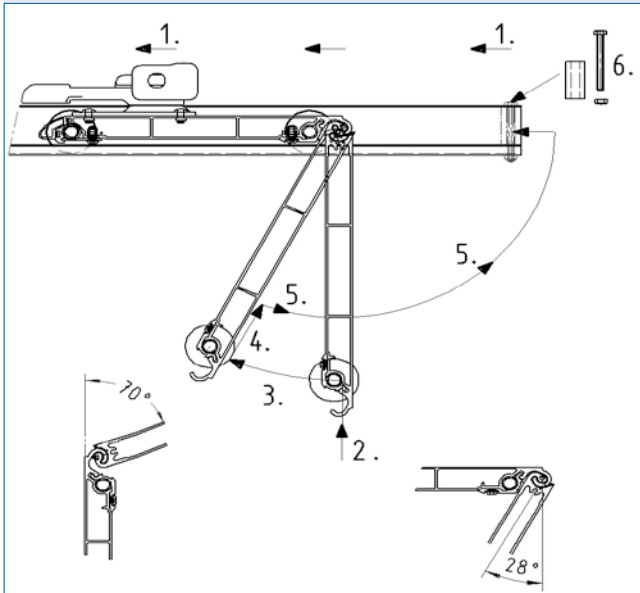

Fig. 2.4.1
- Take a middle panel with inserted running rollers and washers, where these are prescribed, and press this upwards until the slot of the hinge engages into the hooks of the panel located in the rail. Hold the rollers with the open hook side down for opening the door (Fig. 2.4.1). **The panels may not indicate any side misalignment, so that the articulated link can be joined without any problem.**